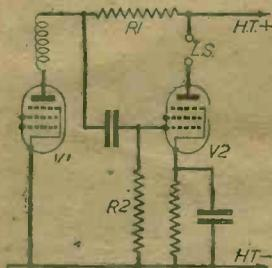

Fig. 1.—A simple R.C.C. amplifier stage, in which it is required to increase bass response.
1. Show a simple method of obtaining bass-boost in the circuit arrangement illustrated in Fig. 1.